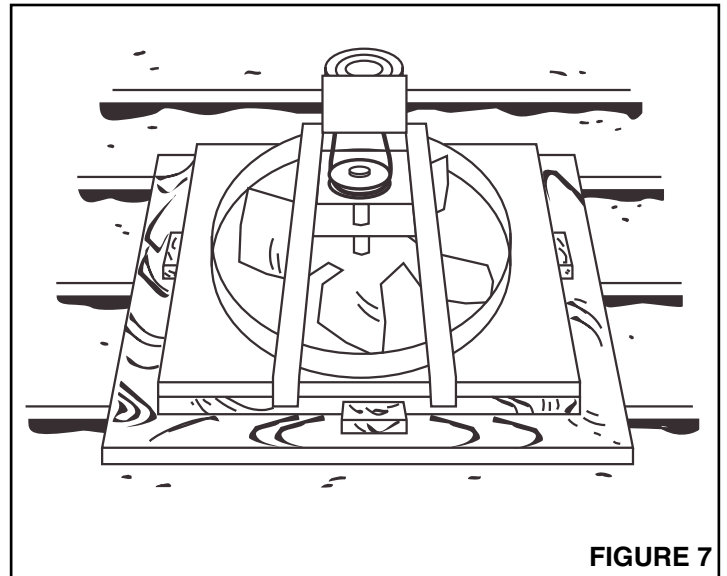

FIGURE 7
- Refer to Figure 7.** Capture the fan frame on all four sides by nailing wooden blocks to platform. Rubber padding can be used between block and frame to eliminate any possible vibration.